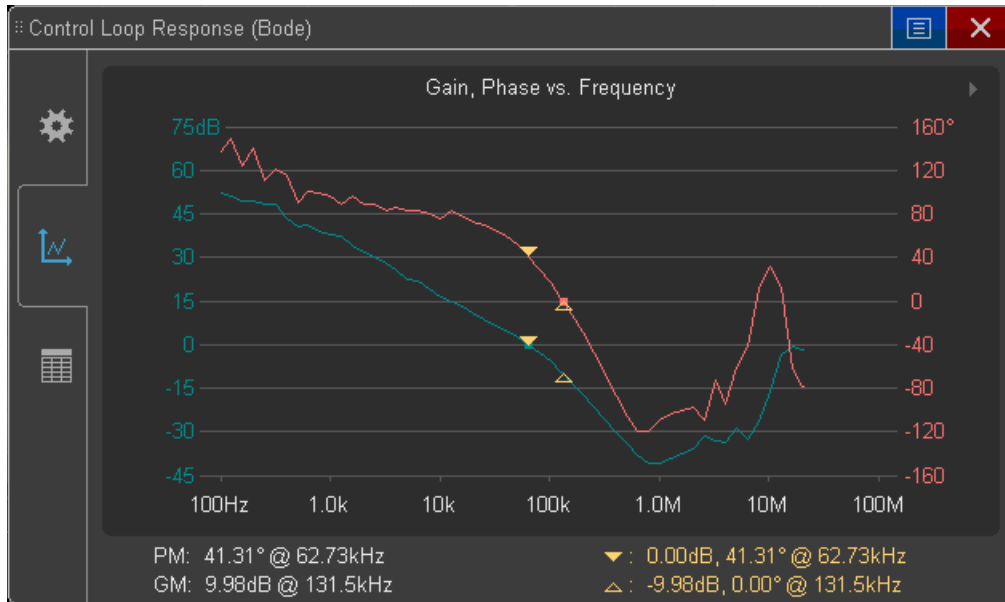

Figure 6. The control loop response gain and phase plots using a fixed test amplitude.
After establishing test parameters in the Setup menu, press Apply. In Figure 6, the teal trace shows the gain plot while the orange trace shows the phase plot across the test sweep from 100 Hz up to 20 MHz. The scope also automatically provides the phase margin (PM) and gain margin (GM) measurements at the bottom of the display.
For example, you might begin by running a complete full-sweep test with a low test fixed amplitude such as we showed in Figure 6 (200 mVpp into 50-Ω which translates into ~13 mVrms across the 5-Ω shunt/injection resistor) to determine the approximate 0 dB cross-over frequency. In that example we determined that the 0 dB cross-over frequency was approximately ~62 kHz. Then run a single test at just 62 kHz and begin increasing the test amplitude until you begin to observe distortion. Once you determine the maximum test amplitude near the 0 dB cross-over frequency, you can simply use that test amplitude at all frequencies. If you want to optimize test amplitudes further at lower and higher frequencies, you can run a few more tests at different frequencies in order to determine an optimized amplitude profile.